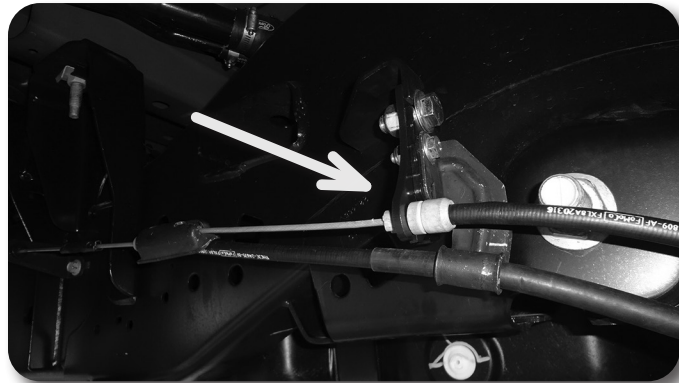

Figure 5
19. Use the two provided wire clips to secure both E-brake cables to the E-brake clamp bracket with the provided 5/16" hardware. Figure 5